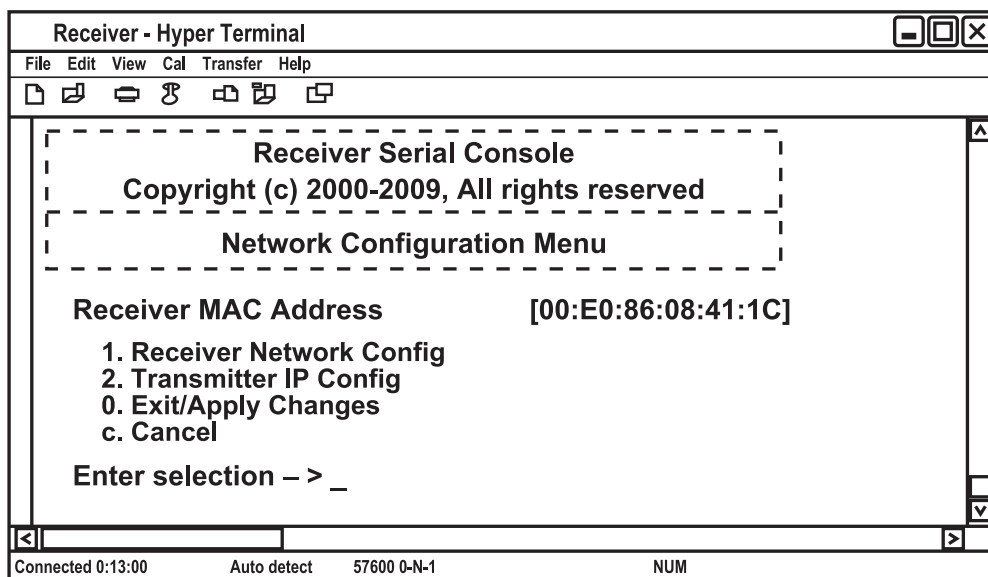

Figure 4-12. Network Configuration menu (Extender mode).
1. Press "1" to select the Network Configuration option and press Enter. The Network Configuration Menu (Extender Mode) appears. (See Figure 4-12.)